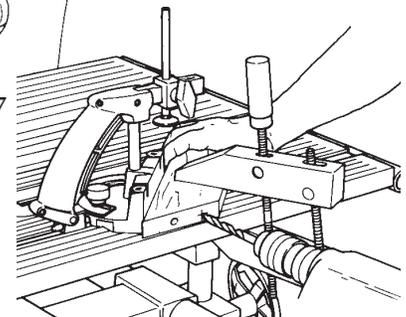

Figure D-38
2. You can also use the miter gauge as a backstop. Be sure to clamp the stock to the table. Otherwise the bit will push the stock out of alignment. See Figure D-38.